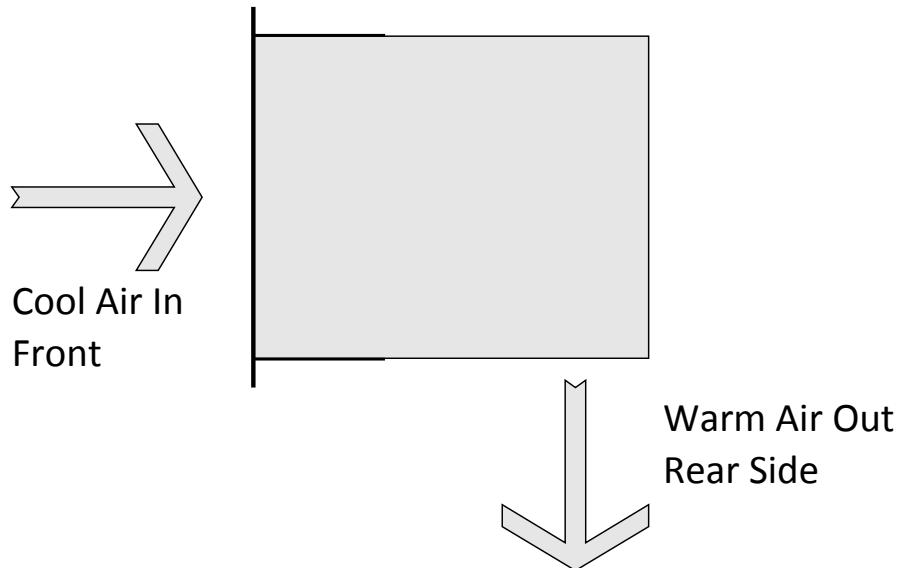

Figure 4.1 Air path through the unit
- This product should never be placed near or over a radiator or heat register. Do not place in a built-in installation (e.g. a rack) unless proper ventilation is provided in accordance with the device airflow design as depicted in Figure 4.1.
Figure 4.1 shows the air path through the unit, where cool air is taken from the front of the unit.